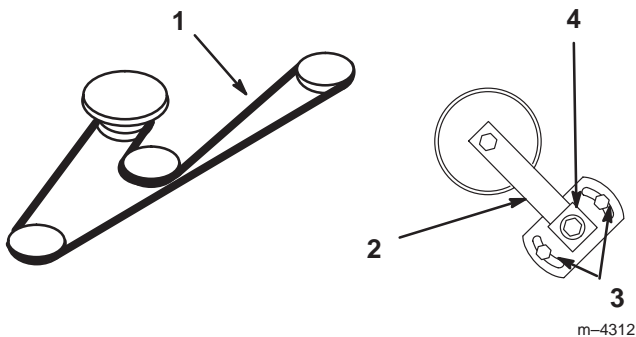

Figure 60
3. Loosen the two nuts securing the idler plate and move the idler arm to relieve the belt tension on the idler pulley; then remove the worn deck belt (Fig. 60).
4. Install the new deck belt around the spindle pulleys, belt guide, the idler pulley, and in the lower groove of the center spindle pulley (Fig. 60).